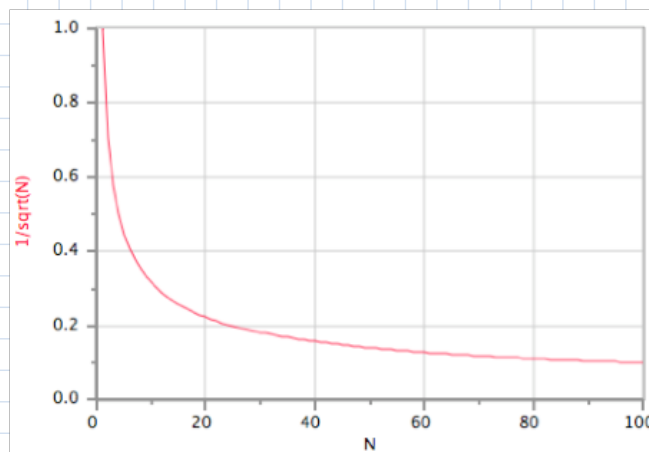

Figure 10: The function  $1/\sqrt{N}$ .
5. As you can see, for  $N=1$  the standard error is equal to the standard deviation, which makes sense (the average of one data point is just the data point). As you increase  $N$ , the SE goes down, meaning you are confining the 68% confidence interval to a narrower range around the mean. However, the SE does not go down very quickly with large  $N$ , as you can see from Figure 10: